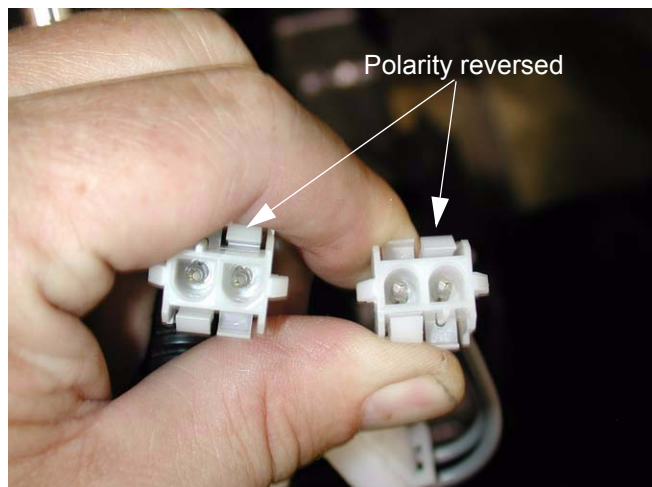

Figure 2.8
- 2.8. The adaptors will reverse the polarity of the connections. If reverses action of accessories or bed lift is not encountered, the adaptors are not necessary on that unit. See Figure 2.8.